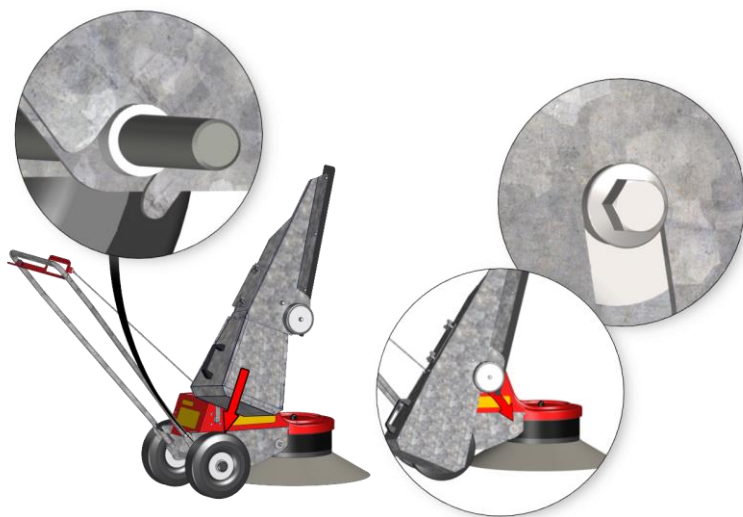

Fig. 61: Assembly of the WR 650 Cleanbag
2. Slide the Cleanbag according to Fig. 61 at an angle onto the spacer of the axle.